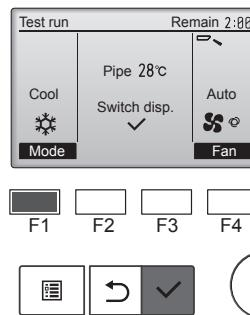

Fig. 6-6
- ① Press the [F1] button to go through the operation modes in the order of "Cool" and "Heat". (Fig. 6-6)
- ② Press the button and open the Vane setting screen.